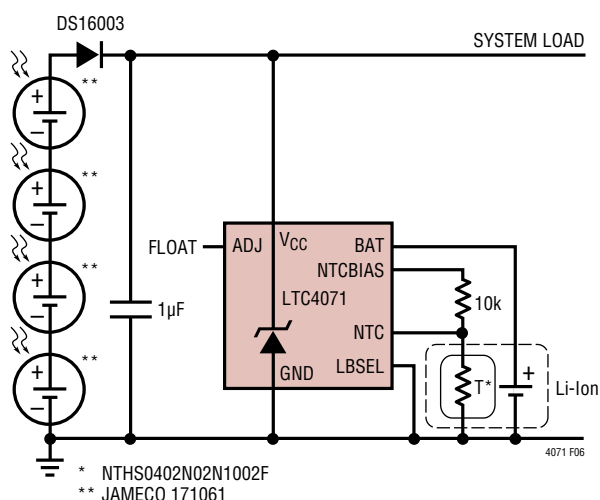

Figure 6. Simple Photovoltaic Charger
A simple photovoltaic (PV) application for the LTC4071 is illustrated in Figure 6. At low V_{CC} voltage, PV current flows to both the system at V_{CC} as well as the battery.